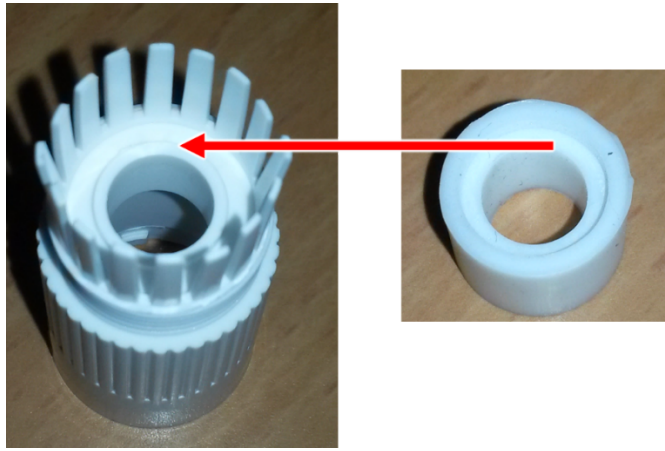

Figure 12. Rubber Gasket Inset Ridge: Fitting on Ridge Inside Endcap
4. If needed, insert the rubber gasket (5) into the endcap (4). If there is a ridge, fit the rubber gasket in-set ridge on the ridge inside the endcap (see Figure 12).